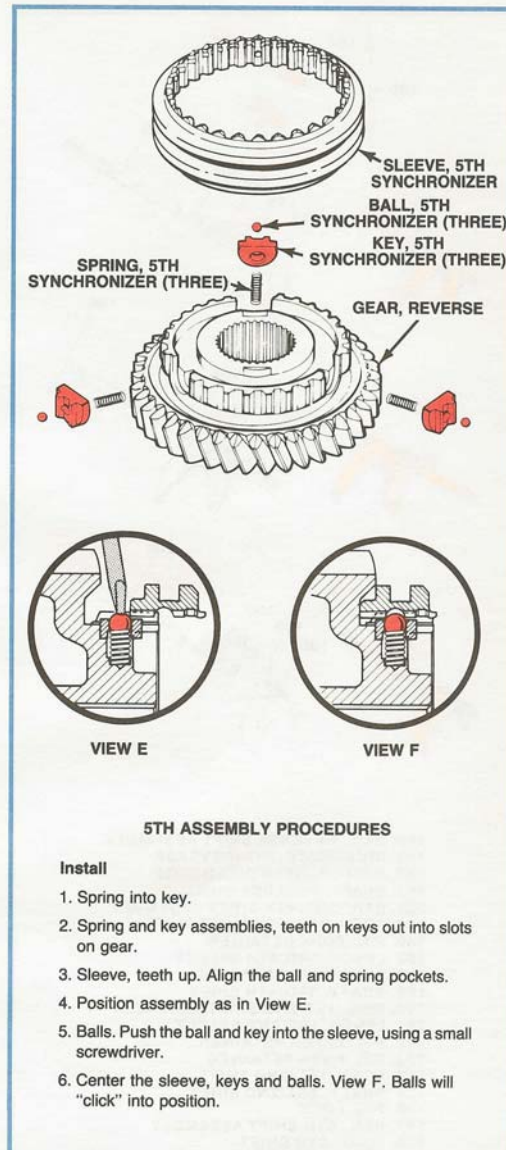

Figure 5-20, 5th Gear Synchronizer Components.
- 5th gear synchronizer assembly, Figure 5-20.